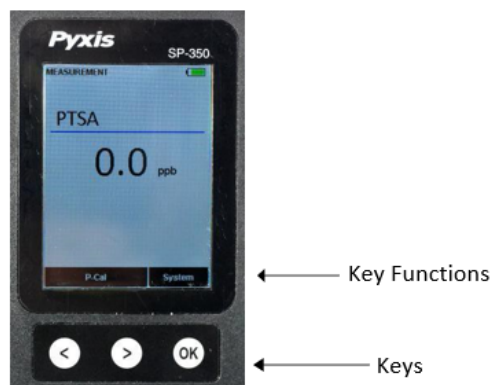

Figure 2.
The SP-350 has three control keys, as shown in Figure 2. The left (<), right (>), and ok (OK) keys are used to launch actions indicated on the LCD display directly above the keys. The labels above the keys indicate the function associated with each key and functions can be changed in different operation modes.
Before beginning a measurement, use the sample water to rinse the sample cell at least three times. Allow 5–10 seconds for the SP-350 to stabilize. The values will be displayed in **white with a blue background** if a stable value is reached (Figure 2). For a sample containing 100 ppb PTSA, the measured PTSA should be stabilized within the range of 98–102 ppb.